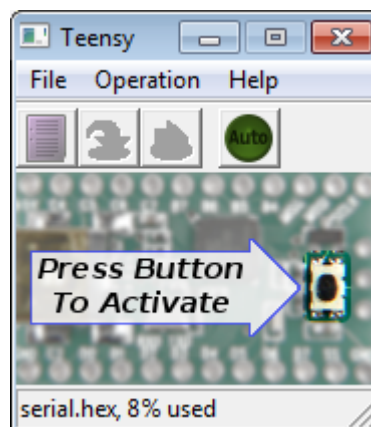

Figure 3.3: The Teensy Loader
3. Run the loader. Figure 3.3 will appear on the screen.